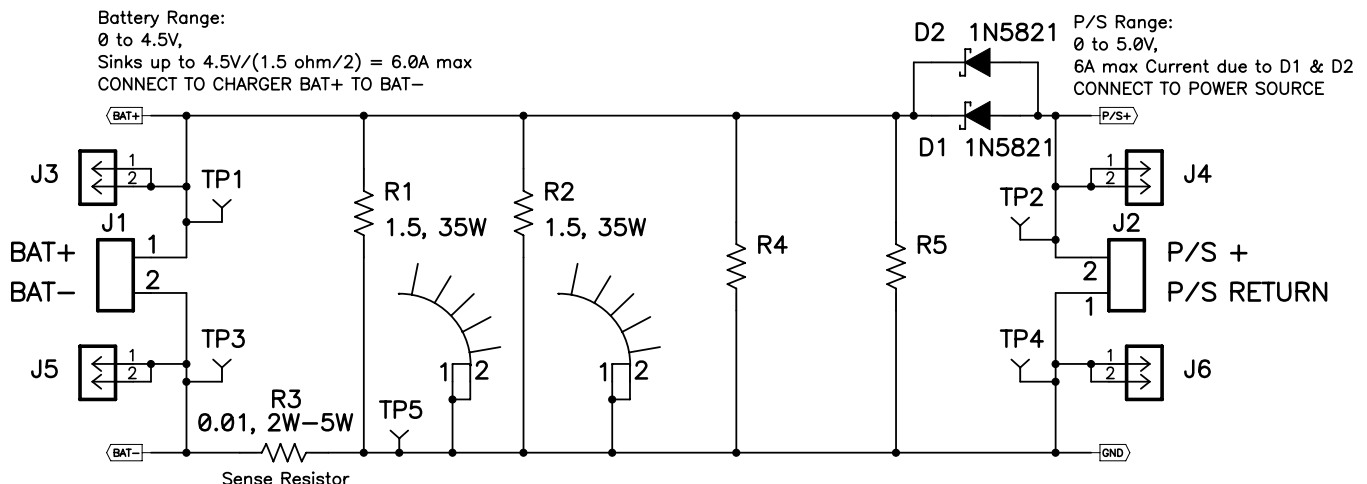

Figure 2. BAT Load (PR1010) Schematic
Testing with an actual battery is the best way to verify operation in the system. If a battery is unavailable, then a sourcemeter like a Keithley 2420, capable of both sourcing and sinking current, or a circuit similar to the one shown in Figure 2 can simulate a battery when connected to PS#2.
4. Connect a voltage meter (VM#1) across J2 and J3 or TP1 (IN) and TP6 (GND).
5. If BAT_Load (PR1010), as shown in Figure 2, is used, connect PS#2 set to approximately 3.1 V to the input side (PS#2 \pm) of BAT_Load (PR1010), then turn off PS#2.